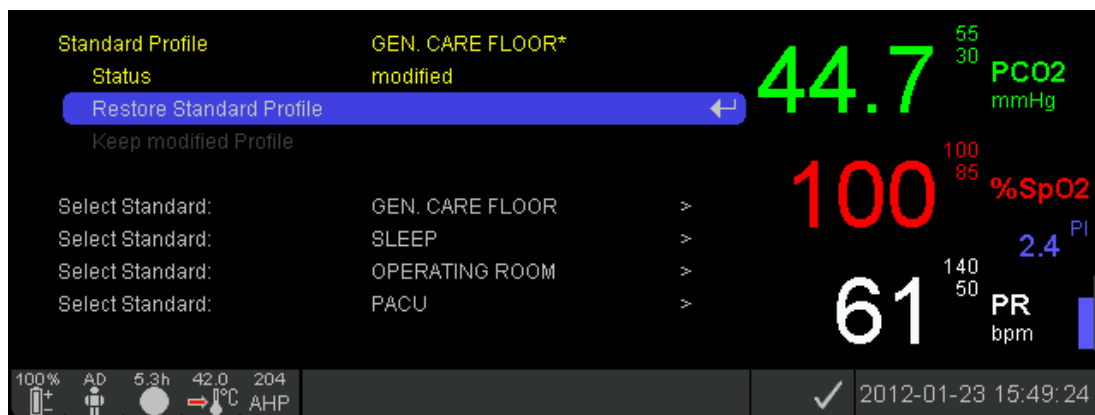

Figure 9 Sub-menu 'Profiles'
- to the sub menu 'Profiles' (Figure 9) if the settings from LAST use and those of the selected 'Standard Profile' are different when the SDM is configured in 'Institutional Mode' (4.7.3).
In the menu of the SDM, the operator can configure all menu parameters (4.7.4.2) during subsequent use on an individual basis at the bed-side. Thereby, operator access to certain menu parameters can be disabled or restricted by the Responsible Organization (4.7.4.1) or, depending on the specific context, by the SDM itself. If the SDM is used in 'Institutional Mode' (4.7.3), the operator can restore the selected 'Standard Profile' or select/activate one of the other profiles stored in the SDM in the sub menu 'Profiles' (Figure 9, Table 50) at any time. This sub-menu is easily accessible via a shortcut in the Quick Access Menu (4.2.5.3, Figure 7) if the sensor is in the Docking Station. Furthermore, if at power-up of the SDM the settings from previous use are different from those of the 'Standard Profile', the sub-menu 'Profiles' is automatically activated, thereby offering the option to restore the 'Standard Profile', to select another 'Profile', or to keep the modified profile.
Note: In 'Basic Mode' no 'SDM Profiles' can be stored on the SDM. In 'Basic Mode' the sub-menu 'Profiles' (Figure 9, Table 50), consequently, is not accessible and no profile name will display on the 'Ready for use/Calibration' screens (4.2.4) and in the main menu (Table 36).
In the sub-menu 'Profiles' (Figure 9, Table 50) – which is easily accessible via a short-cut in the Quick Access Menu if the sensor is in the 'Docking Station' (4.2.5.3, Figure 7) - the operator can at any time restore the 'Standard Profile' or select/activate therein one of the other 'SDM Profiles' stored on the SDM as 'Standard Profile'.
Note: On the SDM, the name of the selected 'Standard Profile' is displayed on the 'Ready for use/Calibration' screen (4.2.4), in the main menu (Table 36), and in the sub-menu 'Profiles' (Figure 9, Table 50). An asterisk appears behind the profile name if at least one of the SDM's
current settings differs from its setting in the selected 'Standard Profile' (an example is shown in Figure 9).